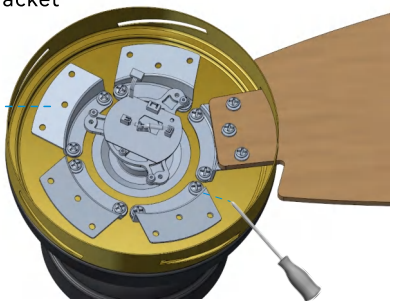

Fig 6.1
6.1 Locate 15 blade attachment screws and washers in the hardware pack. Slide the blade through the lamp cover and align the blade holes with the screw holes of the blade bracket and fasten the blades with the screws and washers as shown in Fig 6.1.